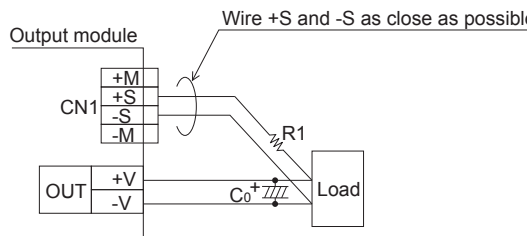

Fig.2.4 When using remote sensing function
■ Wiring method with remote sensing is shown in Fig.2.4.
- ① Note connecting wires enough because the load current flows to sensing line and an internal circuit of power supply is damaged occasionally, when defective contact of the screw such as loosening happens in the load line.
- ② Conform the line drop should be at 0.3V or less using a thick wire from the power supply to the load.
- ③ When remote sensing function is used, output voltage might become unstable because of a impedance of wiring and load condition. And the power supply should be evaluated enough. Following are examples to improve it.